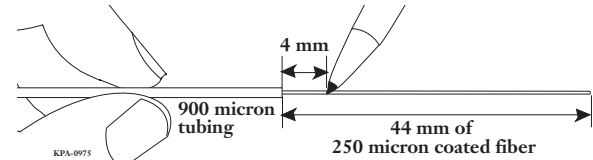

Figure 32 — Feed Fiber through Fan-out Tubing
Step 1: After installing the fan-out according to the instructions provided with it, feed the 250 micron coated fiber through the fan-out tubing. Remove the 900 micron tubing or trim back the fiber so that 44 mm of fiber protrudes from the 900 micron tubing (Figure 32).